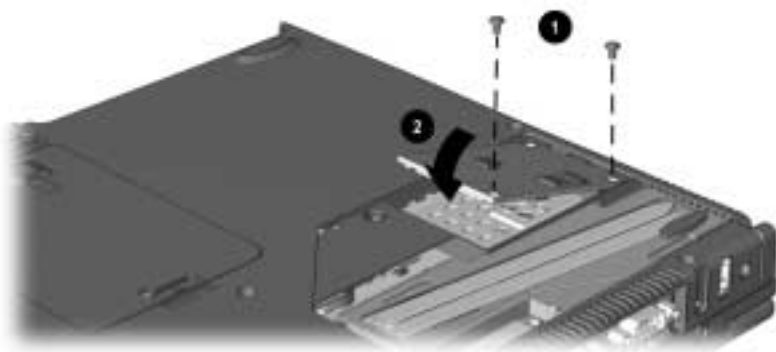

Figure 5-4. *Installing a Modem or Modem/Network Interface Card*
2. Remove the two screws ❶ that secure the modem or modem/NIC to the system board (Figure 5-4).
4. Install the card into the mini PCI slot, making sure to seat the card connector on the system board ❷.